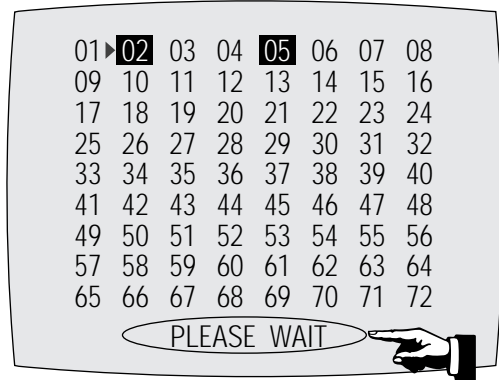

Fig. 5-6
- 5) Press the “MENU” button of remote control again to store the option number. (“PLEASE WAIT” is displayed for a second as shown Fig. 5-6 and this setting is completed.)